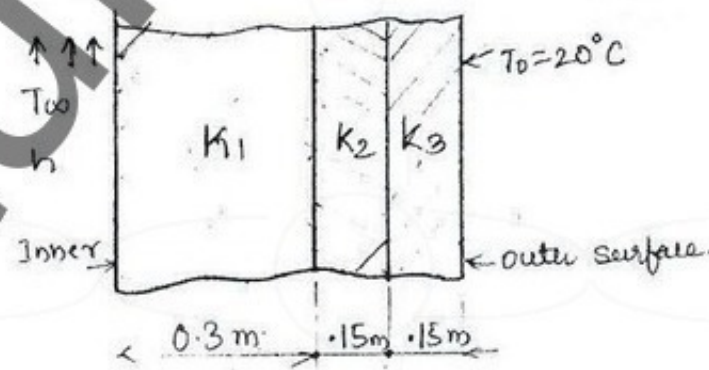

Fig. Q8 (b)
b. A composite wall consists of 3 materials shown in Fig. Q8 (b). The outer temperature is $T_0 = 20^\circ\text{C}$, determine the temperature distribution in the wall. Convection heat transfer takes place at inner surface with $T_\infty = 800^\circ\text{C}$. Take $h = 25 \text{ W/m}^2\text{C}$, Area = 1 m^2 (12 Marks)